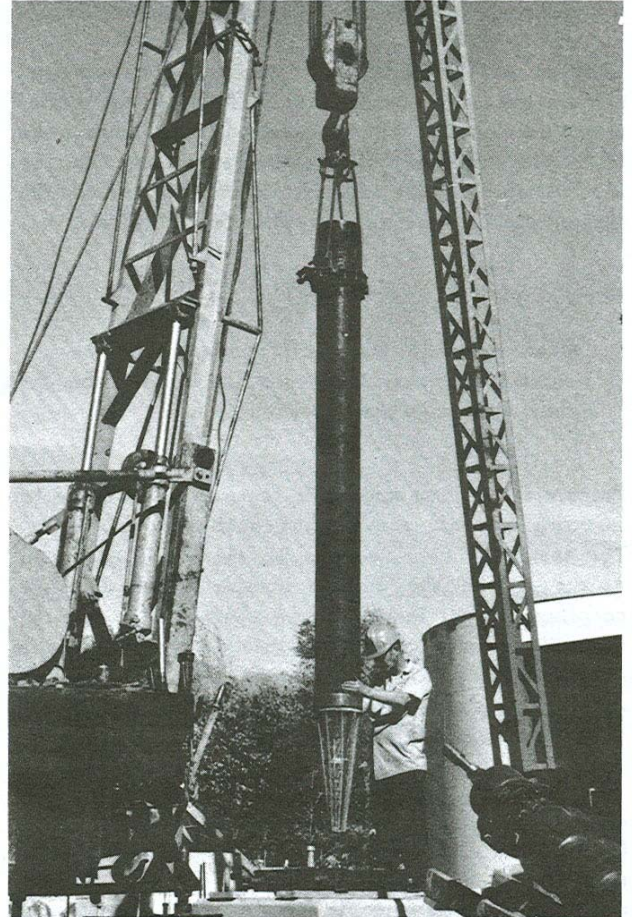

Fig. 7-1. Suction Pipe Hoisted Over Well
A. The hoisting rig should now be set up. The installation given in this manual are based upon the use of mobile power-operated hoist such as that shown in Fig. 7-1. This affords the greatest convenience for pump installation. If any other hoisting arrangement is used, it will be necessary for the installer to interpret these instructions to suit the requirements of his equipment.
1. Securely fasten an elevator clamp near the top of the suction pipe approximately two feet below the threads. This position will permit easy make-up of the joint. Attach a sling to the elevator clamp and pass the looped end over the hoist hook. (See fig. 7-1.) While a workman supports the lower end of the suction pipe (and strainer, if used) hoist the pipe into position over the well.